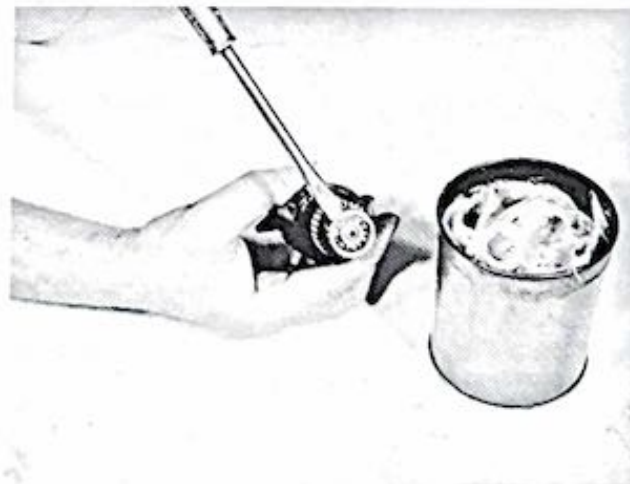

Figure 1-17. Repacking bearing with grease
b. Inspect the front and rear bearings for rough or binding operation, excessive looseness or wear; replace the bearings if damaged. Wash the bearings with a solvent and allow to dry thoroughly. Repack the bearings as shown in figure 1-17 with a special grease of high consistency (such as T105, which is available in one pound cans).